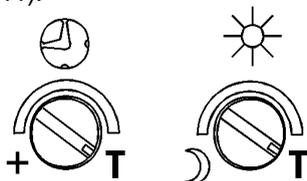

FIGURE 11
(1) TEST MODE
- Turn the Motion Sensor Lite control and the Time control clockwise to the edge – the TEST position (FIGURE 11).